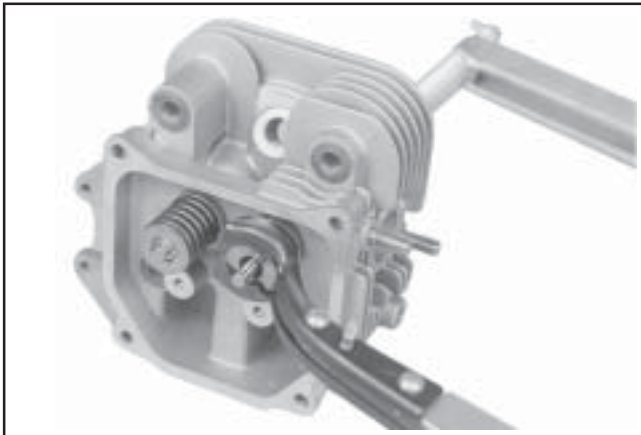

Figure 9-57. Removing Valves with Valve Spring Compressor.
2. Compress the valve springs using a valve spring compressor. See Figure 9-57.